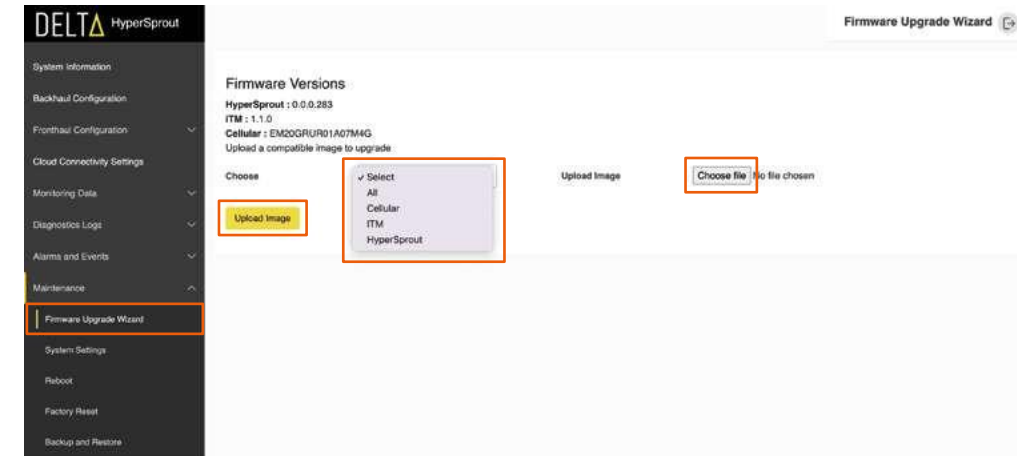

Figure 66: Firmware Upgrade
- i. *Select* the device type in the dropdown menu. See *Figure 66*.
- ii. Click the *Choose File* button and select the required firmware file from the laptop/PC. Then, click the *Upload Image* button as shown in *Figure 66*.